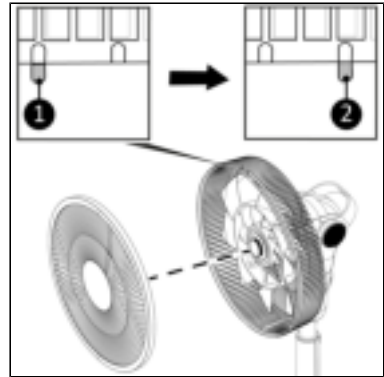

Figure 27.
Align the marking on the front grille with the left marking on the rear grille (Figure 27, pos. 1).
12. Turn the front grille clockwise until the marking on the front grille aligns with the right marking on the rear grille (Figure 27, pos. 2).